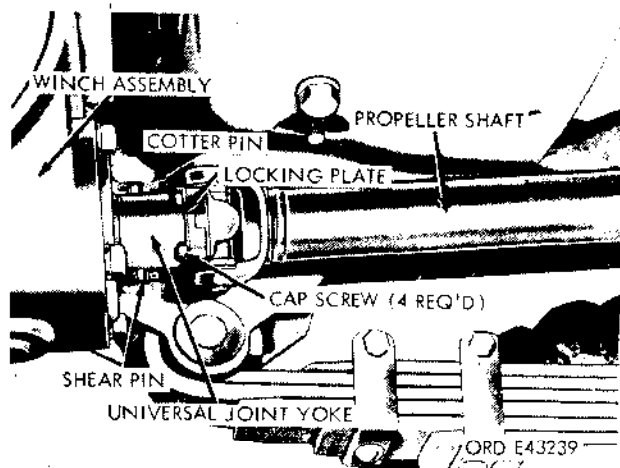

Figure 2-265. Front winch and propeller shaft—bottom view
(1) Attach the hoisting equipment to the winch and hoist until the slack is just removed from the chain or cable.
(2) Separate the propeller shaft front universal joint from the yoke (fig. 2-265) on the winch drive shaft.
(5) Connect the propeller shaft front universal joint to the yoke (fig. 2-265) on the winch drive shaft.
(6) Remove the hoisting equipment from the winch.
*c. Shearpin Replacement* (fig. 2-265).